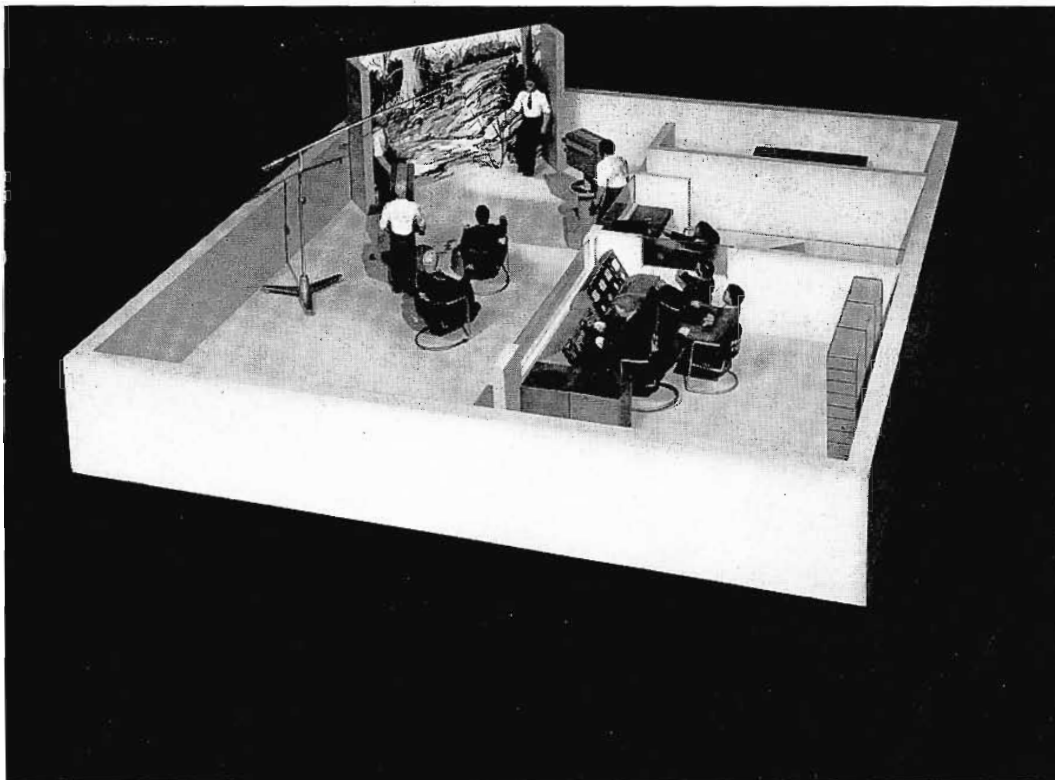

FIG. 11. Model layout showing a typical single "live talent" studio which can be added to the "Basic Buy" station at any later date.
A typical single studio might be arranged in the manner shown in Fig. 11. The facilities for a live-talent studio could be located as (1) a second floor of an existing building, (2) expansion of building at the same level, or (3) a studio remote from other facilities.